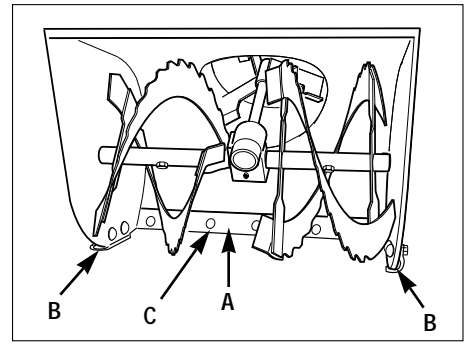

Figure 4-1
the scraper blade (A, Figure 4-1) are 1/8" above the surface to be cleared. If clearing gravel or uneven surfaces, increase the clearance so gravel or other foreign objects are not scooped up into the auger.
- b. Loosen the four screws securing the two skid shoes (B, Figure 4-1).
- c. Adjust the skid shoes (B) until they are in the correct position to support the collector (auger/impeller) housing and the scraper blade (adjust skid shoes equally to prevent uneven snow removal).
- e. The scraper blade (A, Figure 4-1) can also be adjusted. Adjust the scraper blade at the four carriage bolts (C, Figure 4-1). Adjust the bottom edge of the scraper blade so it is parallel to the bottom edge of the auger.